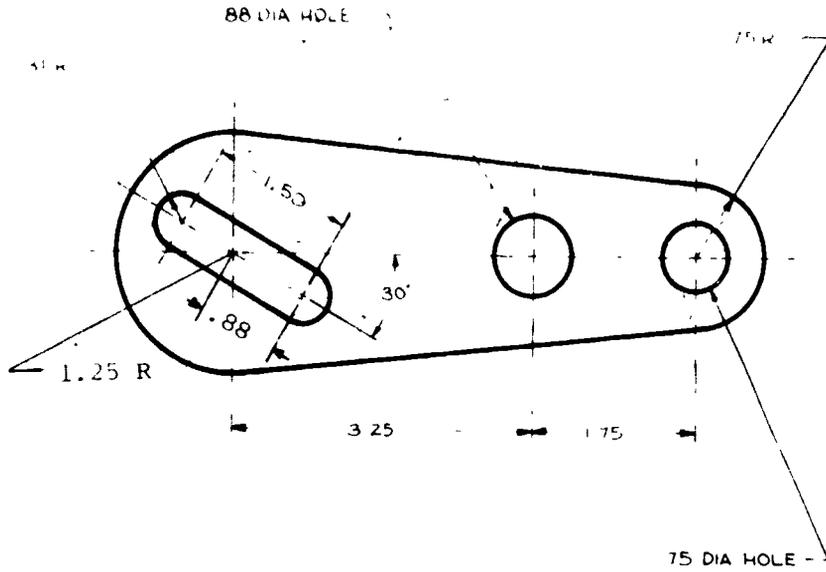
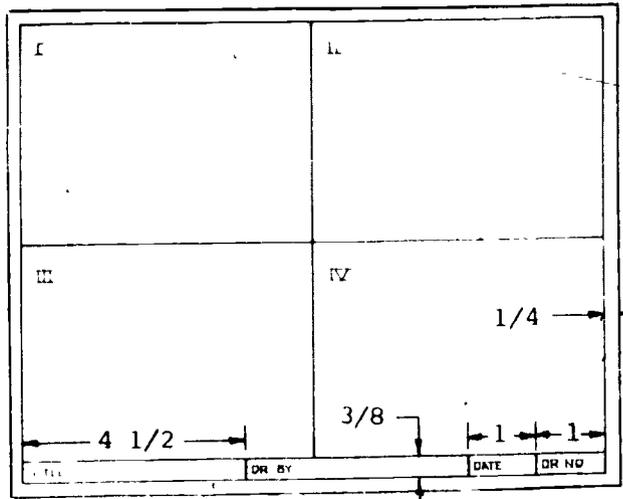
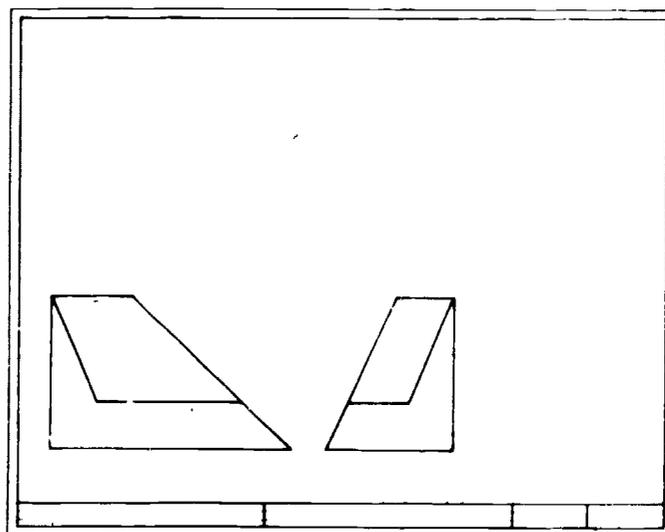
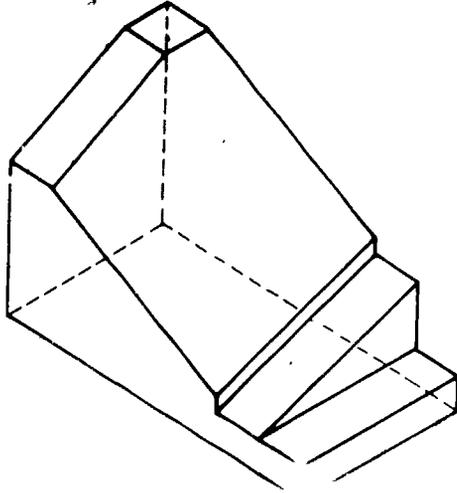

Figure 2.12 LINK
Fig. 3.14
Figure 4.11
Figure 4.12
Use the format in Chapter III, fig. 3.14, for the following problems. Use a hard lead and leave construction lines. Draw full scale.
1. Make a full size pencil drawing of the LINK in figure 2.12. Draw on a 9" x 12" sheet of vellum with a $\frac{1}{4}$ " border. Use title block as shown in Figure 3.14. Show all construction. Show all construction.
2. Divide a sheet of rectangular grid paper into four equal areas and add border and title block as shown in Fig. 3.14.
1. Redraw the given views in Fig. 4.11 on 9" x 12" tracing paper and add missing view and isometric view. Use format and title block shown in Fig. 3.14. Make a diazo copy of the finished drawing.
1. On a sheet of 9" x 12" vellum, draw the front, top, and right-side views of the object in Fig. 4.12. Use border and title block as shown in Fig. 3.14.